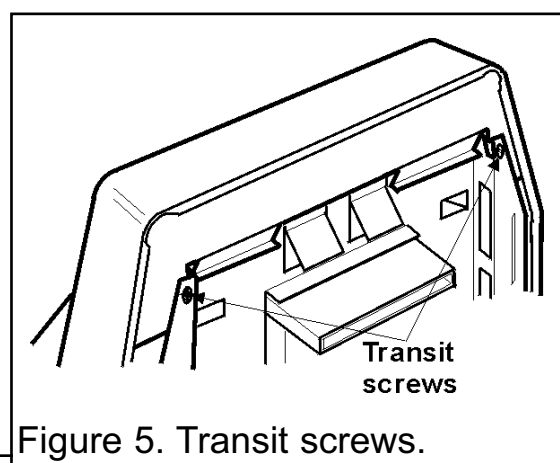

Figure 5. Transit screws.
2. Remove the two transit screws from the upper back panel extensions (See figure 5).